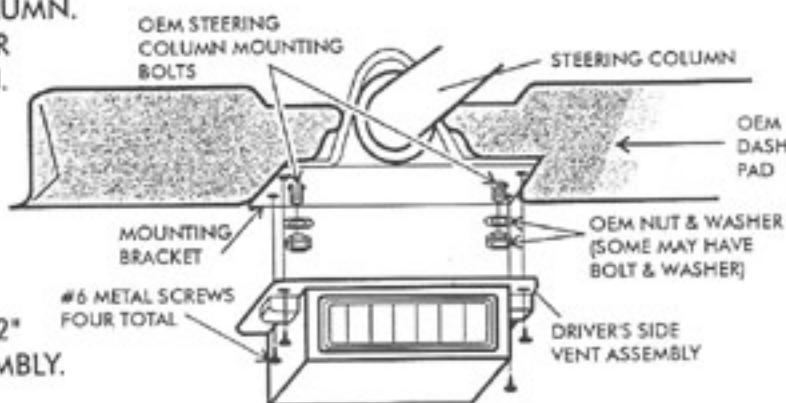

FIGURE 7
- MOUNT THE BRACKET TO THE COLUMN USING THE ORIGINAL STEERING COLUMN MOUNTING HARDWARE. SEE FIGURE 7.
- USE THE FOUR (4) #6 BLACK METAL SCREWS TO SECURE THE VENT ASSEMBLY TO THE MOUNTING BRACKET. SEE FIGURE 7.